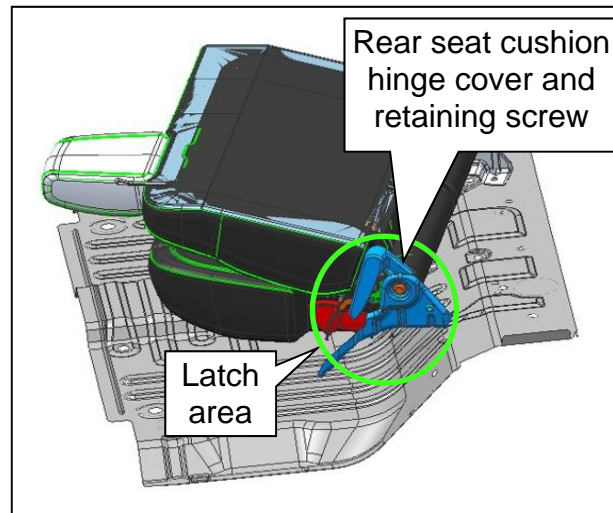
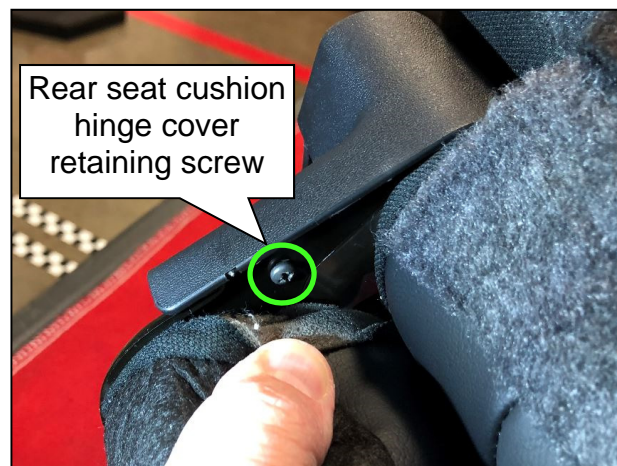

Figure 1
Figure 2
2. Pivot the driver (LH) side of the rear seat forward to access the latch area.
**HINT:** Figure 1 - Figure 17 on pages 2 - 7 display the driver (LH) side, the passenger (RH) side is similar.
3. Remove the rear seat cushion hinge cover retaining screw (Figure 1 and Figure 2).